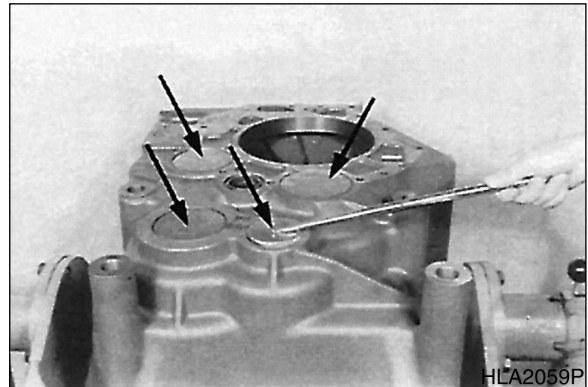

Figure 106
5. Remove sealing covers (Figure 106)